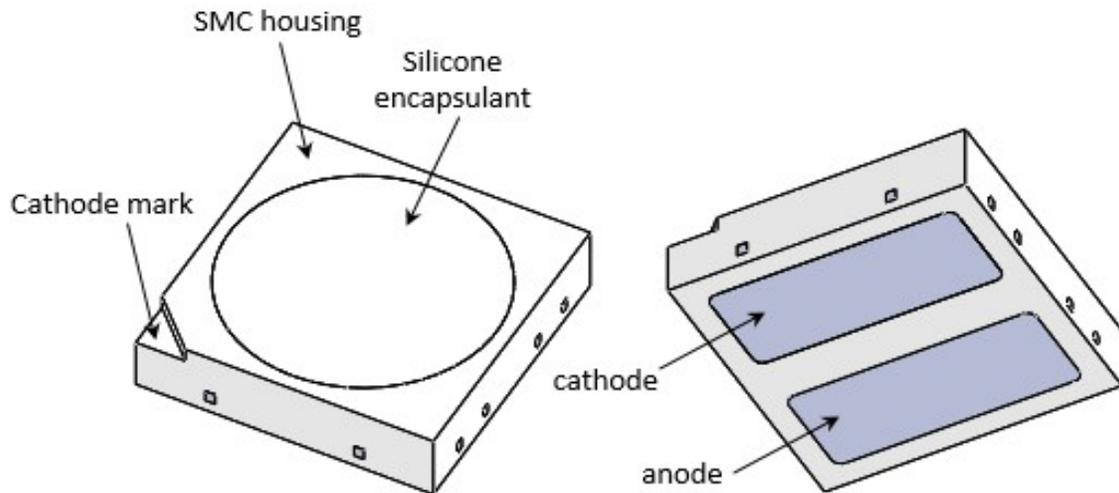

Figure 1. Package rendering of LUXEON HR30 emitter.
The LUXEON HR30 emitter (Figure 1) is a SMC (silicone resin molding compound) molded, no-lead, surface mount package consisting of a symmetrical anode and cathode pads. A small chamfer corner on the top of the package marks the cathode side of the emitter. The heat generated by the LED chips are being dissipated equally through both electrode pads. The silicone encapsulant protects the LED chips and the wire bonds against external environment. The lead frame and the pad finishes are plated with gold. This emitter is available with and without a transient voltage suppressor (TVS) chip.
2. The nozzle outer diameter should also not be smaller than the silicone encapsulant surface (Figure 1) otherwise this may allow the nozzle tip to be in full contact with the silicone-filled area and may cause damage to the surface or cause pick-up/release issues.